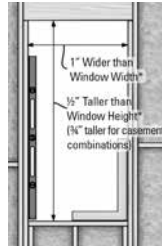

Figure 1
- (Required)** The rough opening should be level, plumb and square. Dimensionally, it should be 1/2" taller and 1" wider than the frame dimension of the window or window combination (3/4" taller on casement combinations), excluding the nailing fins (**Figure 1**). Note that horizontal mulls add 1" to the vertical dimension, and vertical mulls add 1" to the horizontal dimension of the individual units combined.
- For Florida Building Code Compliance:** The rough opening must have a maximum gap of 1/4" on any given side, instead of using the dimensions shown in **Figure 1**. Refer to the FL code for more information.